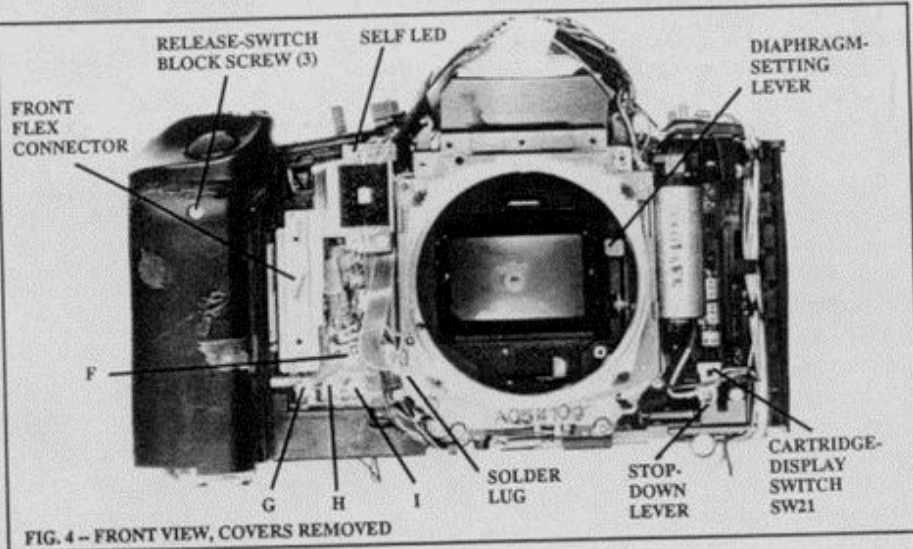

FIG. 4 -- FRONT VIEW, COVERS REMOVED
- Fig. 4 -- front view, covers removed
AE overcharge: 0.9 - 1.1f (reading on Canon's tool lens) -- overtravel on diaphragm-setting lever, Fig. 4, during charge. To adjust, change the adjusting collar CA1-6441-000 on the mirror-charge lever (collar P in Fig. 19). Specify the size by the last 3 digits in the part #.
Adjust F, Fig. 4, for an accurate 1/4000 (0.244ms).
6. **Flash adjustments** (adjustments at front of camera, Fig. 4)
Note: If you have access to an A or T series Canon Speedlite, adjust I, Fig. 4, until the aperture display in the finder matches that set on the Speedlite. If you don't have the Speedlite, adjust as follows (50mm lens installed):
- (1) Connect a 3K resistor between the CCC terminal and ground. The camera then sets the 1/250 flash speed.
- (2) Jumper the AV EF terminal to the CCC terminal. The LED finder display should now show f/4 when you close SW1.
- (3) Adjust I, Fig. 4, until the finder displays f/4.
- (7) In the direct mode, the tester should read 0.7 +/- 0.5F. Adjust with H, Fig. 4.